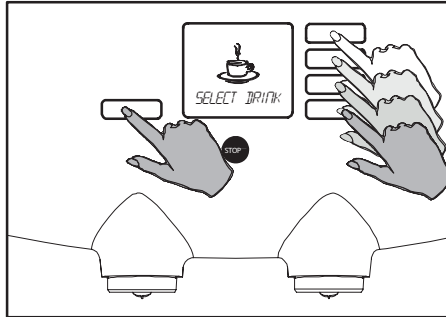

Fig. 83 Check the operation
36. Check the operation of the dispenser by pressing a selection button once and the hot water button once (fig. 83).